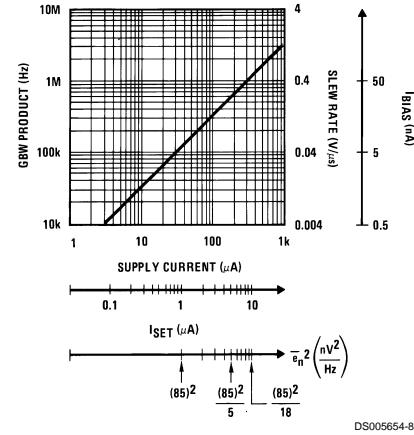

FIGURE 3. LM146 Typical Characteristics
**Isolation Between Amplifiers:** The LM146 die is isothermally layed out such that crosstalk between all 4 amplifiers is in excess of -105 dB (DC). Optimum isolation (better than -110 dB) occurs between amplifiers A and D, B and C; that is, if amplifier A dissipates power on its output stage, amplifier D is the one which will be affected the least, and vice versa. Same argument holds for amplifiers B and C.
**LM146 Typical Performance Summary:** The LM146 typical behaviour is shown in Figure 3. The device is fully predictable. As the set current,  $I_{SET}$ , increases, the speed, the bias current, and the supply current increase while the noise